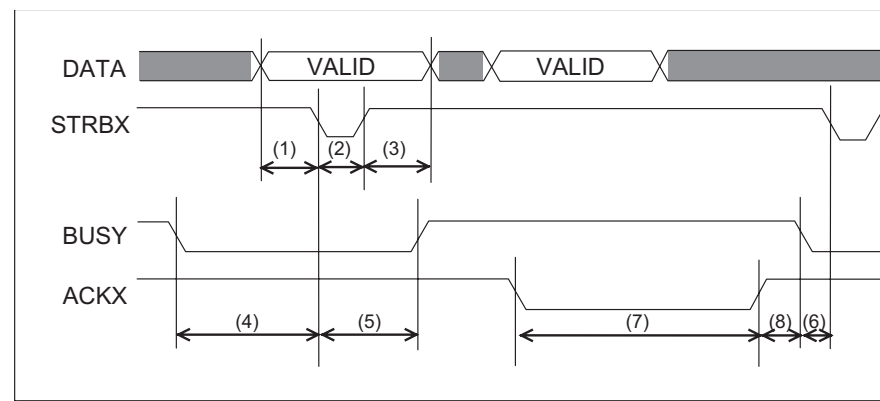

Figure 1-9. Data Transmission Timing
- Data transmission timing: Refer to Table 1-20 and Figure 1-9.